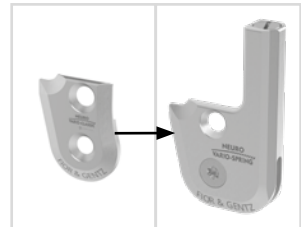

fig. 27
- 2 Mount the functional unit of the NEURO VARIO-SPRING system joint in the correct system width (fig. 27).